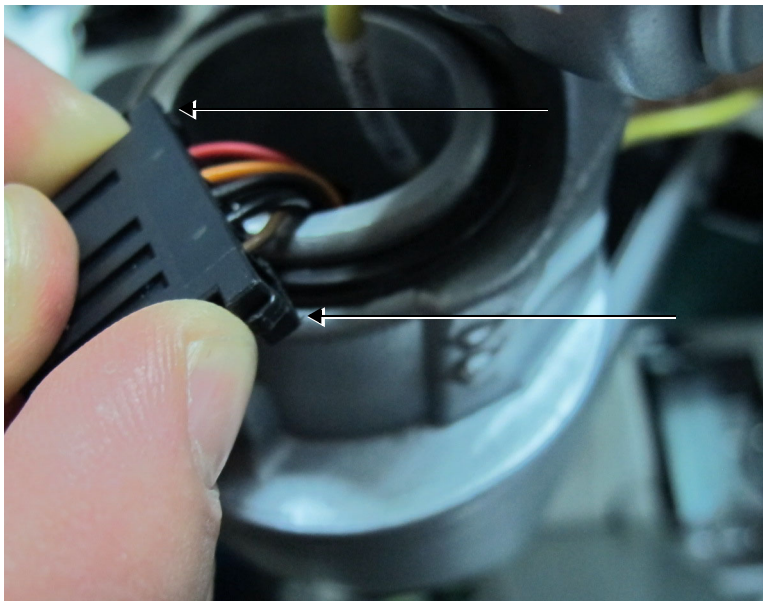

Figure 8-230 Squeeze the Connector Clips and Feed Cable Downwards
- 6.) Squeeze the connector clips, then feed the display monitor cable to the OPIO through the upper articulated arm joint as shown in Figure 8-230.